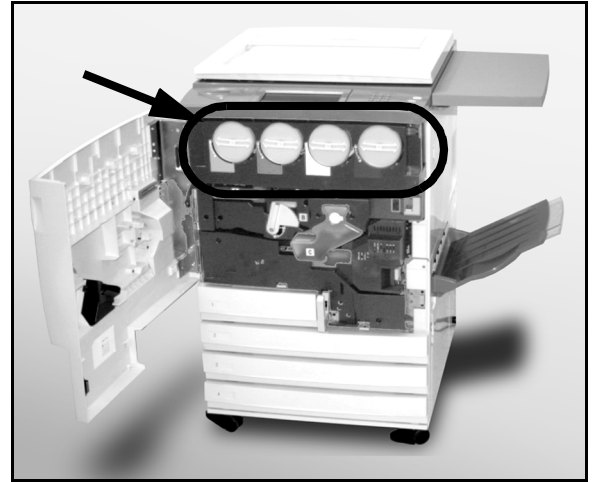

Figure 6: Locating the Dry Ink Cartridge
- 1 Open the Front Door of the copier/printer and locate the Dry Ink Cartridges, as illustrated in Figure 6. From left to right the Dry Ink Cartridge colors are Cyan, Magenta, Yellow, and Black.